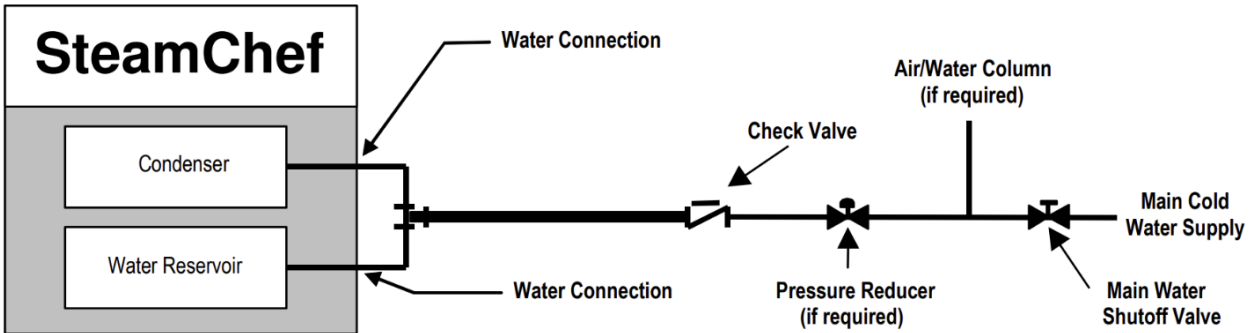

Figure 3-10 Cleveland Range Single Water Supply Arrangement
- c) If the static pressure is above 60 psi, a pressure regulator must be used and set at approximately 50 psi. Pressure above 60 psi can damage solenoid valves. See Figures 3-10 and 3-11.
- g) If the supply water meets the requirements shown in the Warranty, then the Single Water Supply Arrangement shown in Figure 3-10 may be used.